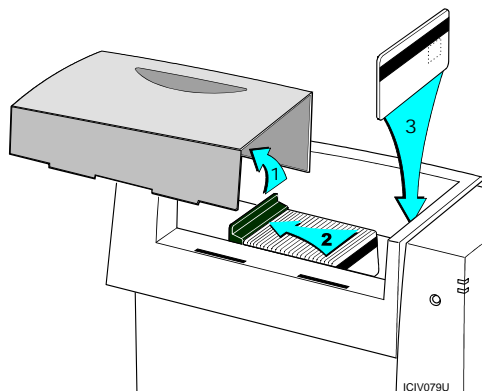

Figure 5-4: Load an exception card
- 2 Remove the card input tray cover (step 1 in Figure 5-4).
- 3 Hold the card input tray and move the card pusher back slightly (step 2 in Figure 5-4).
- 4 Insert the unprinted exception card next to the wall of the card input tray, near the card pick mechanism (step 3 in Figure 5-4). Make sure the card is oriented correctly, as shown in Figure 5-4.